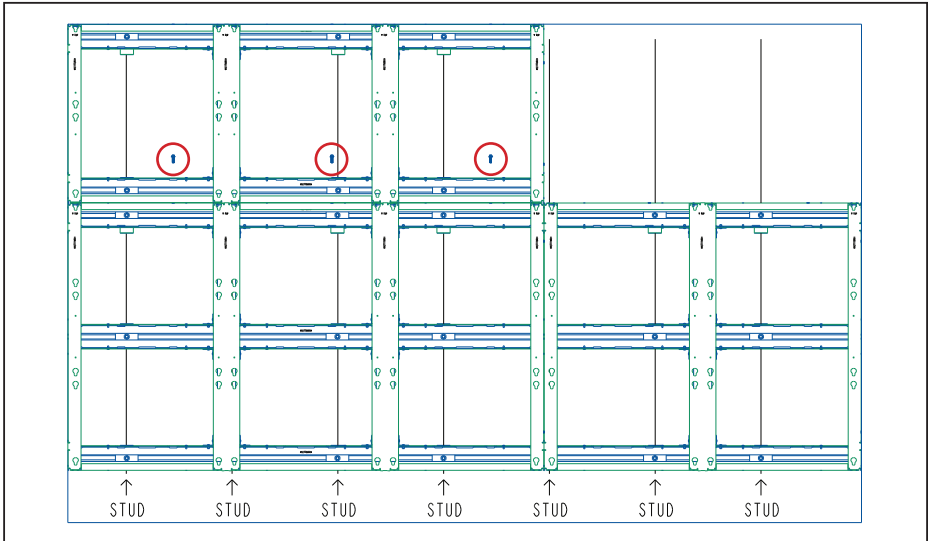
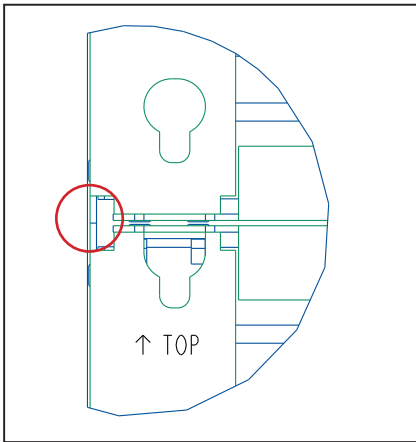
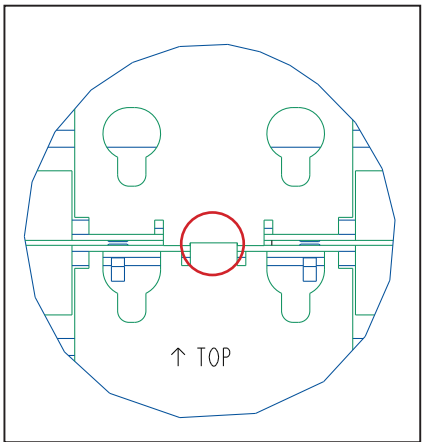

Figure 10: Install Stitch Bolts across Horizontal Seam
Figure 11: Ensure Alignment Tabs Are Flush & Even
Figure 12: Lock X & Y Position
- 2. Install the supplied stitch bolts across the horizontal seam and tighten to lock the frame into place. Refer to **Figure 10**, **Figure 11**, and **Figure 12**.